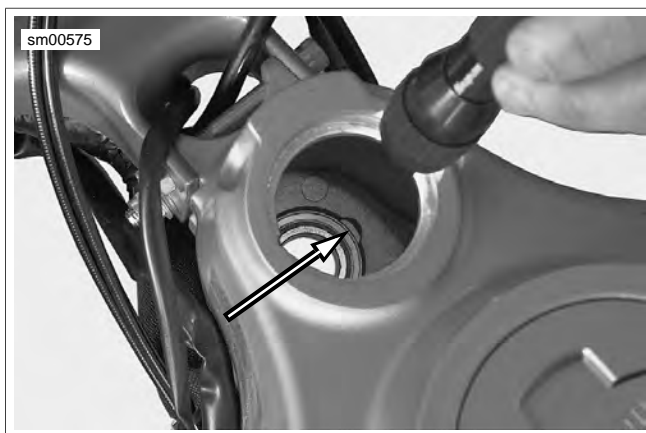

Figure 2-104. Lower Steering Head Bearing Notches (Upper Bearing Removed For Clarity)
- a. Loosen steering stem pinch fastener (2) and upper and lower fork clamp pinch fasteners (3, 7).
- b. Brace wheel while removing steering stem capnut fastener (1).
- c. Remove upper fork clamp (4) and front-end assembly which includes front wheel, steering stem/lower fork clamp.
6. Remove upper and lower steering head bearings (5).
- a. See Figure 2-104. Locate notches inside steering head stem bore (upper bearing removed for clarity).